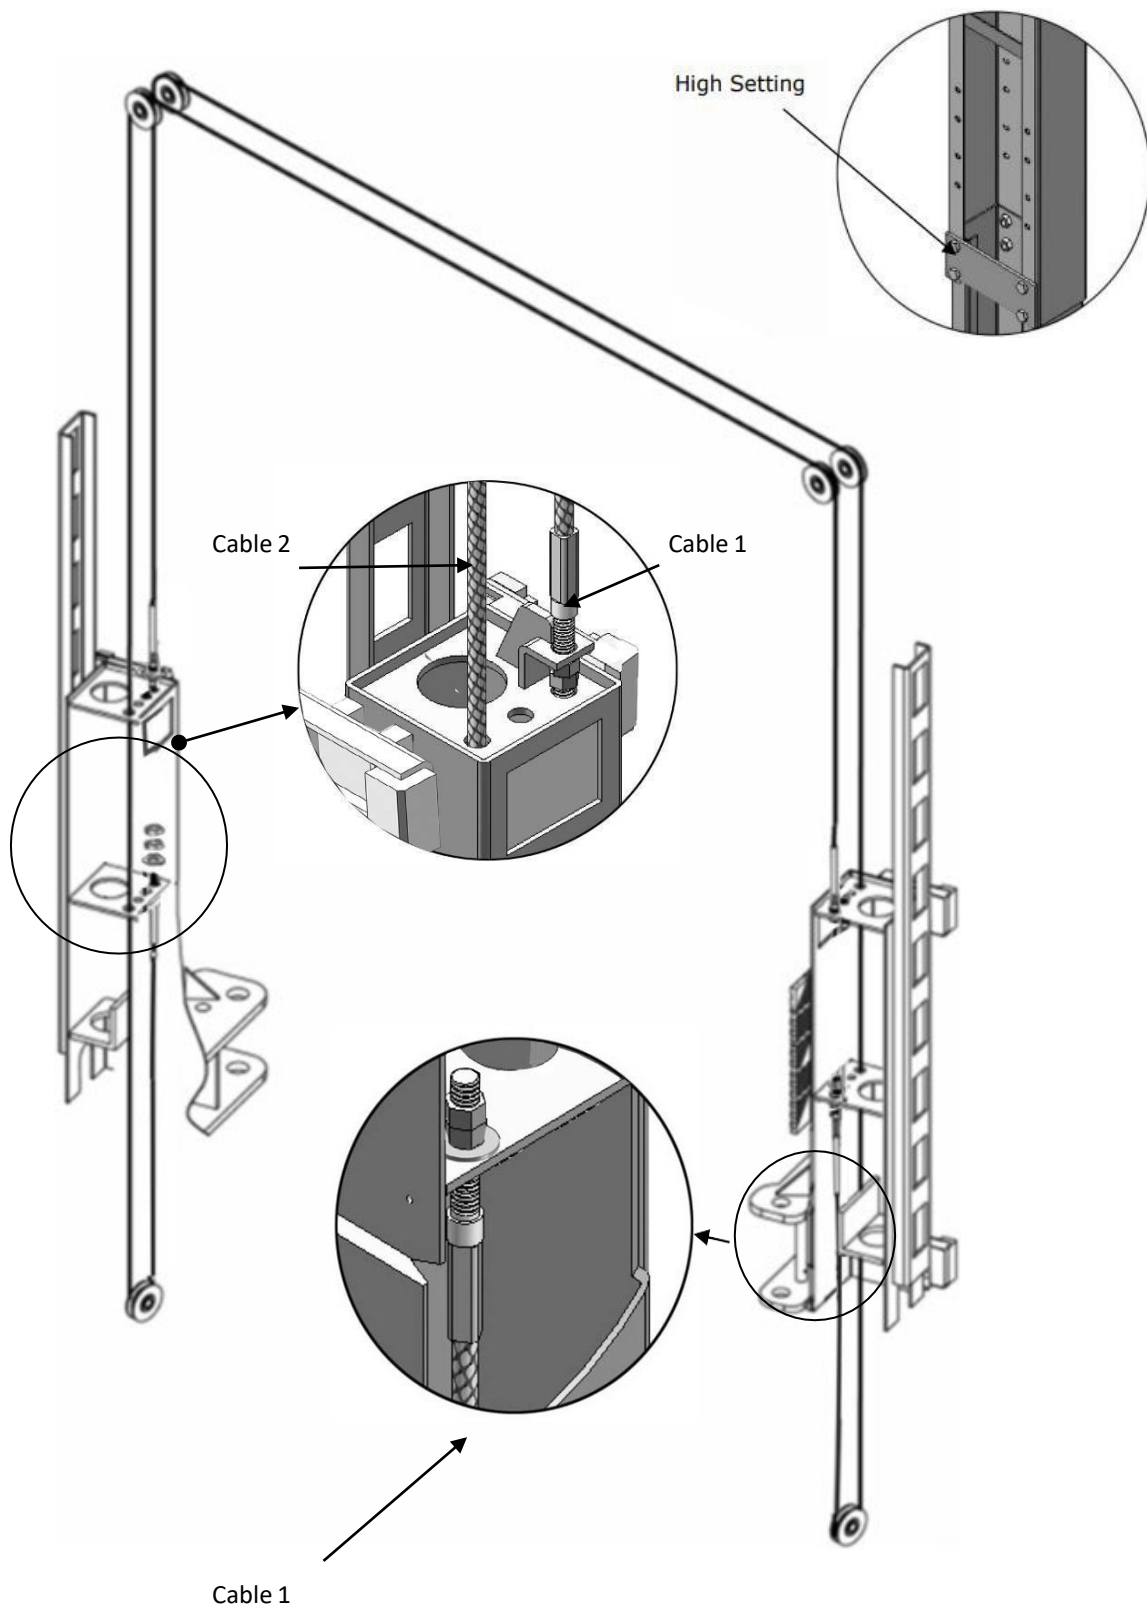

Fig. 28
1.2 Connecting cable for high setting (See Fig. 28)